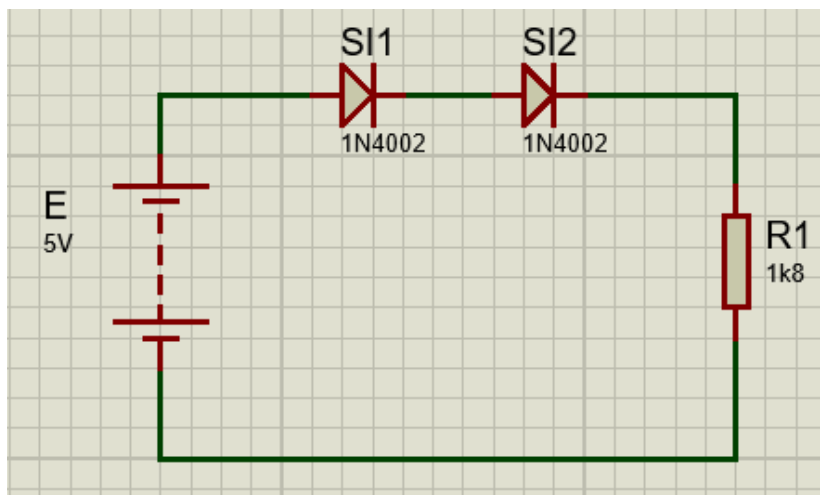

Figure 1.1
1. Construct the circuit of *Fig. 1.1* with the supply (E) is set at 5 V. Record the measured value of the resistor.